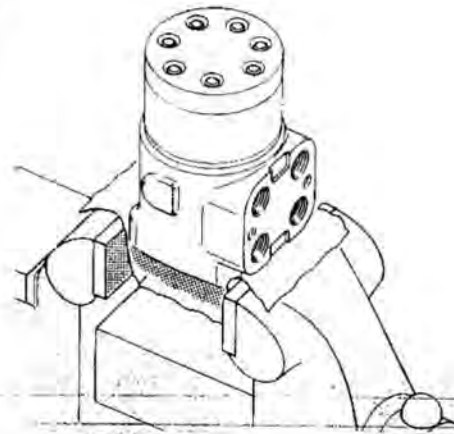

Figure 2
- 1 Clamp housing as shown in Fig. 2. Don't over-tighten jaws.
26 Clamp housing as shown in Fig. 2. Don't over-tighten jaws.